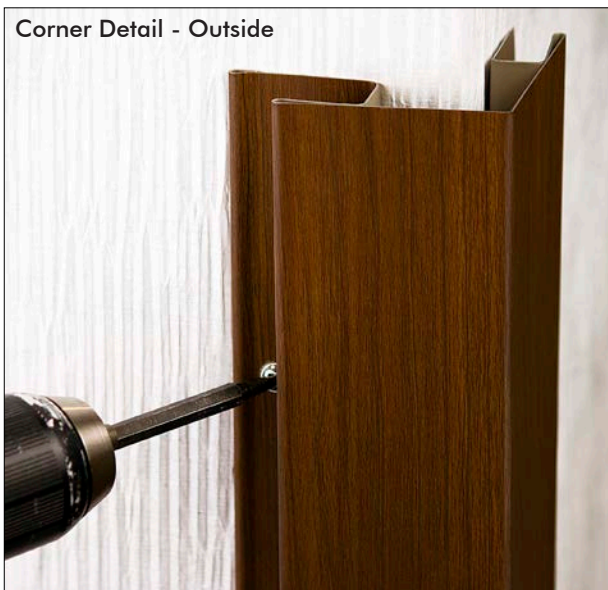

Fig.58
Step 1: Set the outside corner (#706) in place and fasten (Fig.58).